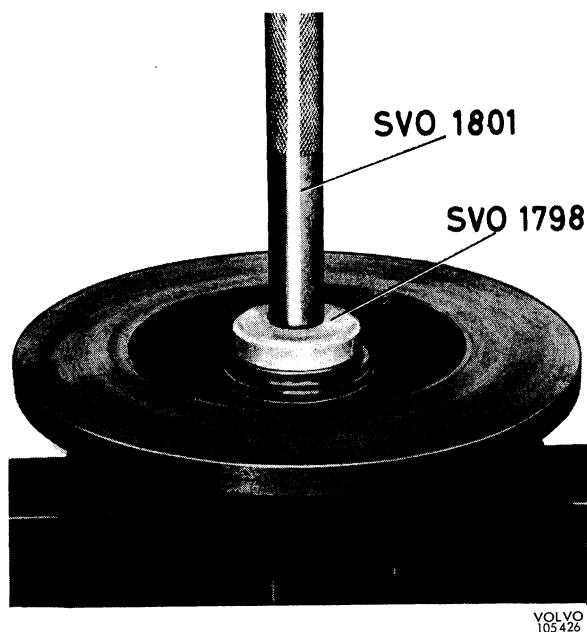

Fig. 6-23. Fitting sealing ring
3. Place the inner bearing in position in the hub. Press the sealing ring in with drift SVO 1798 and standard handle SVO 1801, see Fig. 6-23.